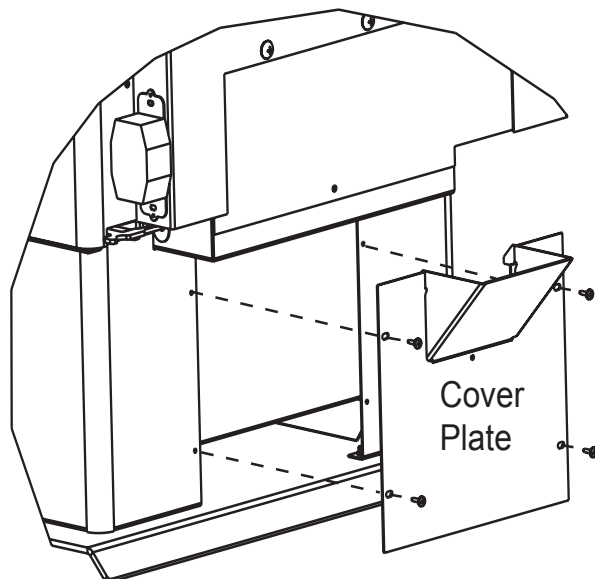

Figure 20.3
7. Install ash door assembly by sliding the rod at an angle into the slot on the left side (**Figure 20.3**).
8. Slide the ash door over the 8 screws protruding from the bottom of the appliance. Secure with nuts and washers using 7/16 socket wrench (**Figure 20.3**).
7. Install ash door assembly by sliding the rod at an angle into the slot on the left side (**Figure 20.3 on page 20**).
8. Slide the ash door over the 8 screws protruding from the bottom of the appliance. Secure with nuts and washers using 7/16 socket wrench (**Figure 20.3 on page 20**).
11. Use 2 bolts and two flange nuts to secure ARS channel using 3/8 open end wrench and 7/16 socket wrench (**Figure 20.3 on page 20**).